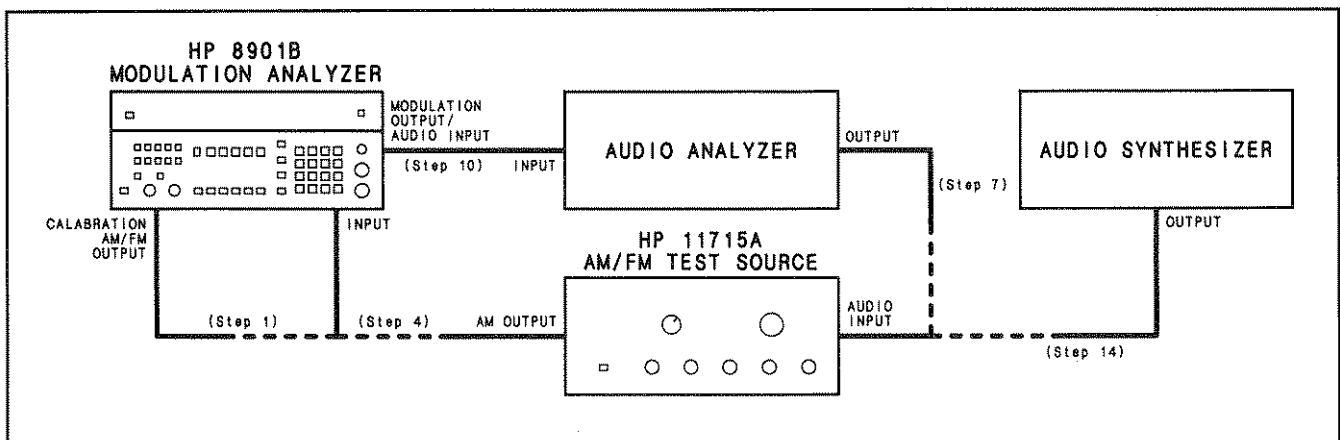

Figure 4-1. AM Performance Test Setup
4. On the AM/FM test source, set the test mode switch to AM. Connect the test source AM output to the Modulation Analyzer's INPUT. (See Figure 4-1. Nothing should be connected to the test source's audio input.)
7. Set the audio analyzer's oscillator to 20 kHz. Connect its output to the audio input of the AM/FM test source. (See Figure 4-1.)
10. Connect the audio analyzer's input to the Modulation Analyzer's MODULATION OUTPUT/AUDIO INPUT. (See Figure 4-1.) Set the audio analyzer to measure the distortion on the 20 kHz signal at the MODULATION OUTPUT/AUDIO INPUT with 80 kHz of low-pass filtering (on the audio analyzer). The distortion should be 0.3% or less (-50 dB or less).
14. Set the audio synthesizer to 1 kHz at +1 dBm. Connect its output to the audio input of the AM/FM test source. (See Figure 4-1.) Fine adjust the audio synthesizer level for a Modulation Analyzer display of 80% AM.